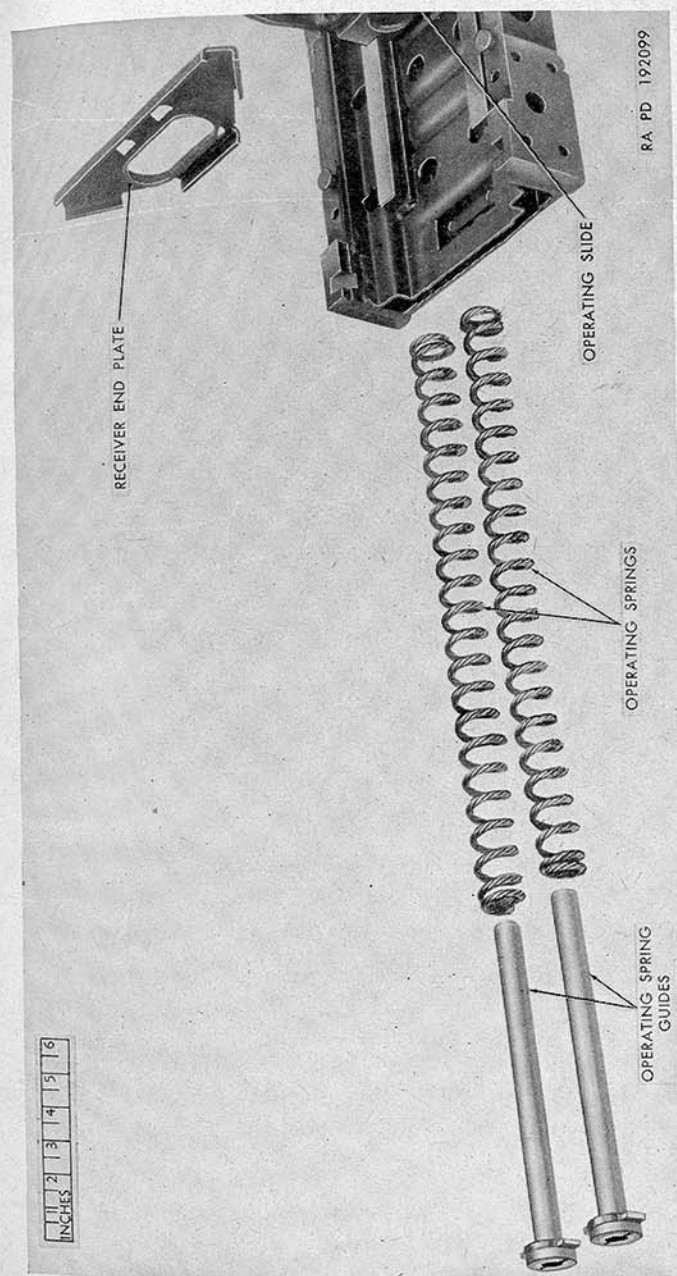

Figure 59. Operating springs and end plate—exploded from gun.
- Withdraw operating springs from spring guides (fig. 59).
b. Install operating springs on guides (fig. 59).